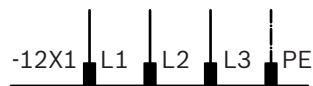

Fig. 13: Feed-in/voltage supply
1. 12X1: Feed-in/voltage supply (fig. 13)
- ▶ Connect the mating connector (optionally available, refer to chapter 17.3 "Accessories") for power supply as illustrated in fig. 13.